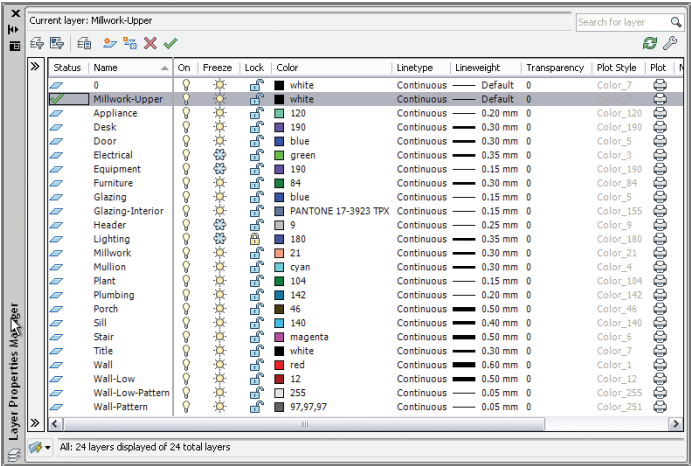

FIGURE 6.27 Maximizing the columns in the Layer Properties Manager makes them easier to read.
6. Right-click any one of the column headers to access a context menu. Choose Maximize All Columns from this menu. Figure 6.27 shows the result: The columns are all readable.